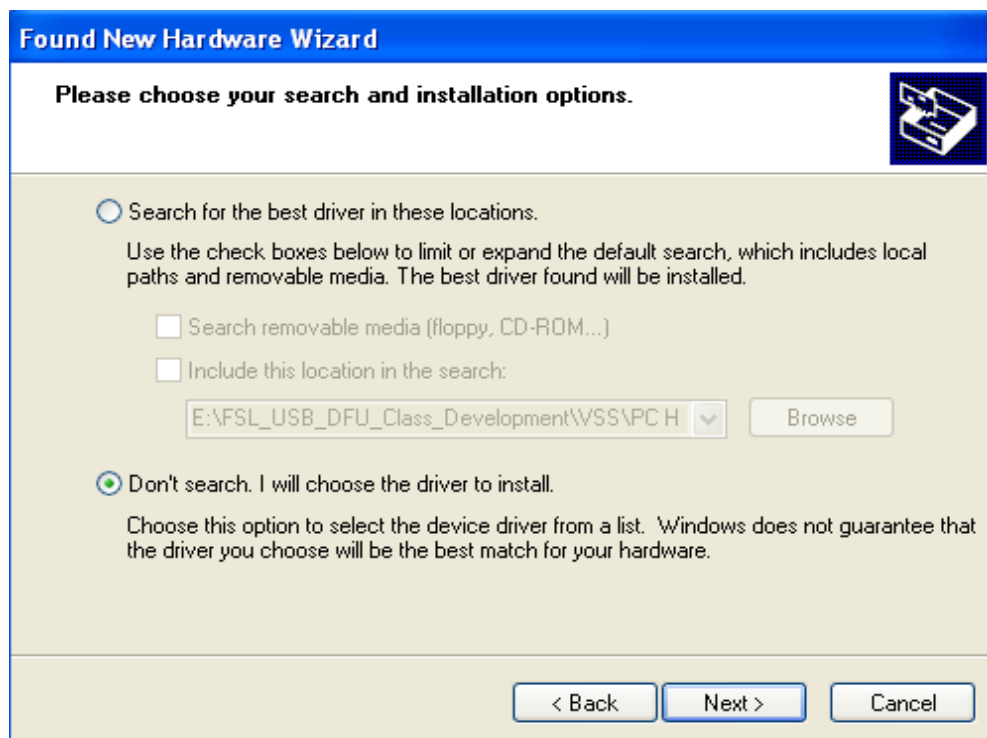

Figure H-4. Search and installation options
2. Select Install from a list or specific location (Advanced) option and click on the **Next** button. Search and installation options window appears as shown in Figure H-4. Select **“Don’t search, I will choose the driver to install”** option and click **Next**.